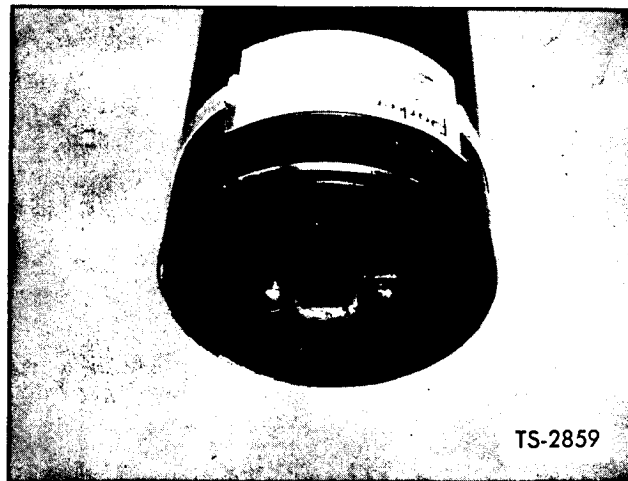

Fig. 21. Accumulator — Gas Valve End
2. Remove gas valve protector plate or caps from accumulator. See Figure 21.